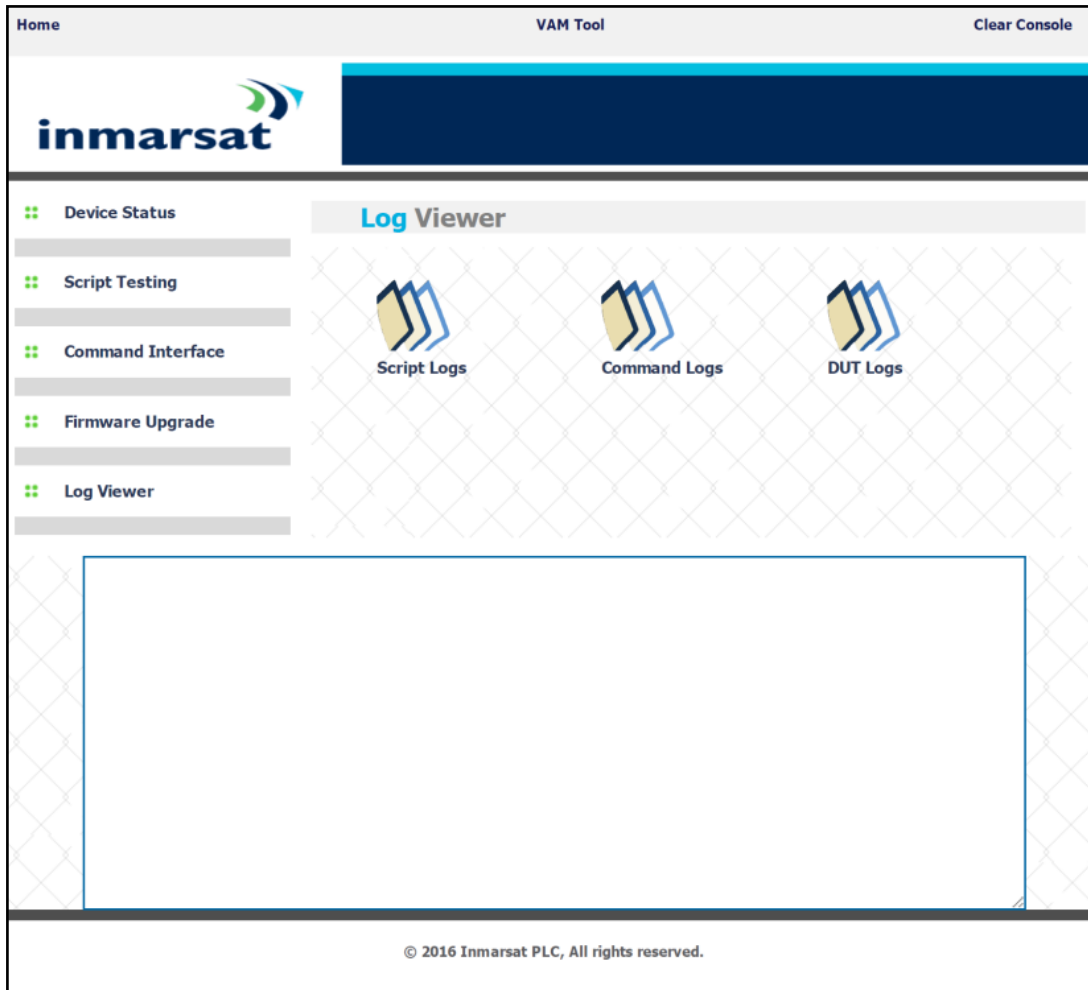

Figure 23. VAM-CM Control tool screen shot
*Figure 23* shows a screen shot of VAM control tool log viewer. More detailed information concerning the VAM control tool can be found in VAM Tool User Guide.